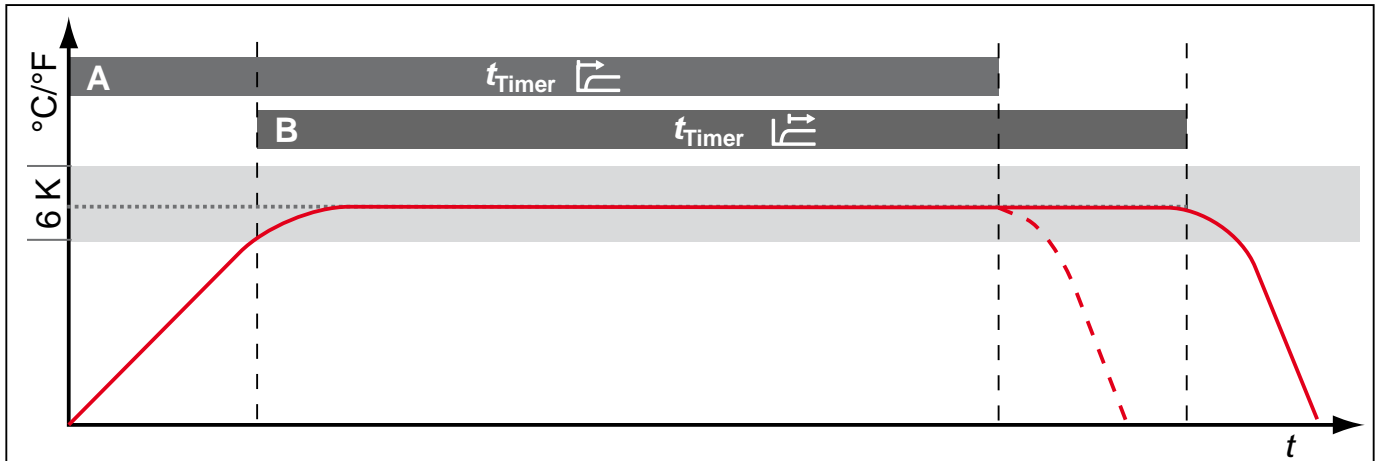

Fig. 20 Timer Mode
For universal ovens UN/UF and incubators IN/IF, you can choose if the timer (see page 24) should run setpoint-dependent or not – this determines if the timer should not start until a tolerance band of ± 3 K around the set temperature is reached (Fig. 20, B) or if it should start right after activation (A).